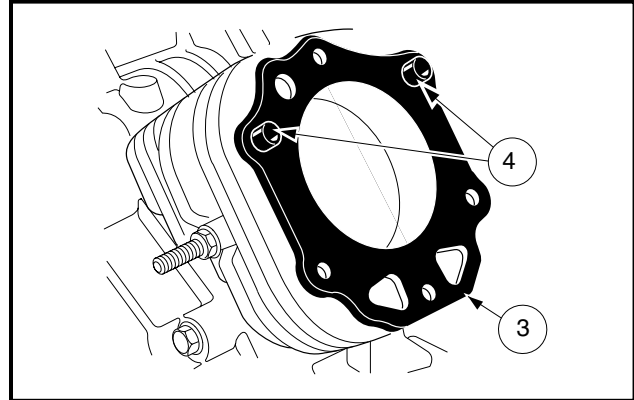

Figure 18-9 Remove Head Gasket
2. Remove head gasket (3). Note the position of the two dowels (4) as shown (**Figure 18-9, Page 18-8**).